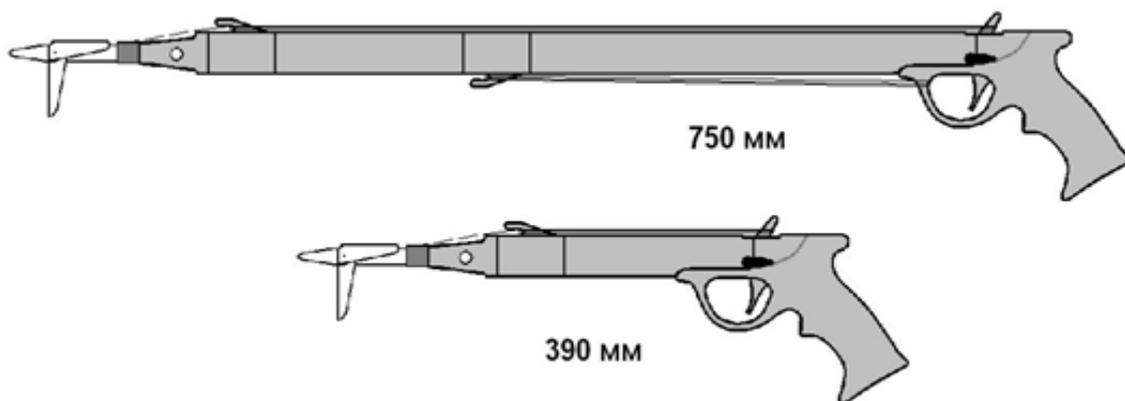

Figure 1.
- reel up the extra line of other receiver between the handle's safety bracket and the bead (see Fig.1), adjusting the line length.